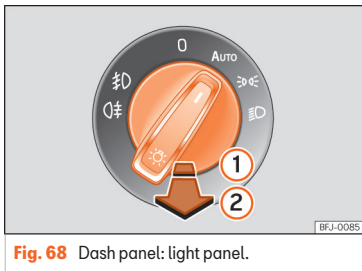

Fig. 68 Dash panel: light panel.
- **Turning on the fog lights** D : pull the light switch to its first position \ggg Fig. 68 ①.
- **Turning on the rear fog light** D : pull the light switch fully out ②.